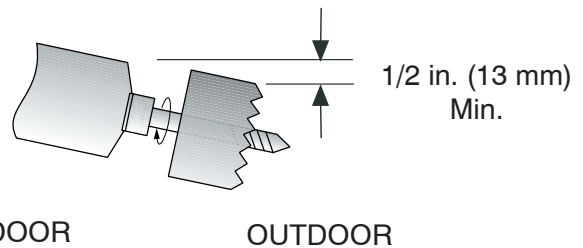

Fig. 8 – Drill Holes
1. Determine pipe hole position using the mounting plate as a template. Drill pipe hole diameter per chart below. The outside pipe hole is 1/2-in. (13 mm) min. lower than inside pipe hole, so it slants slightly downward (see Fig. 8).